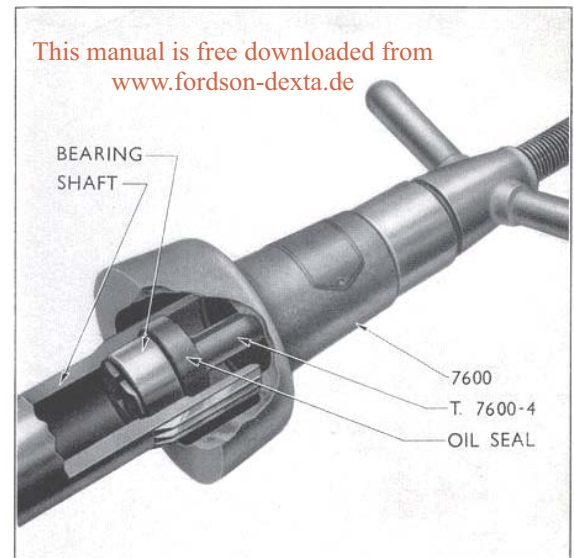

Fig. 4
2. If the front bearing requires servicing first extract the oil seal then remove the bearing using Main Tool No. 7600 and split collets T.7600-4 (see Fig. 4).